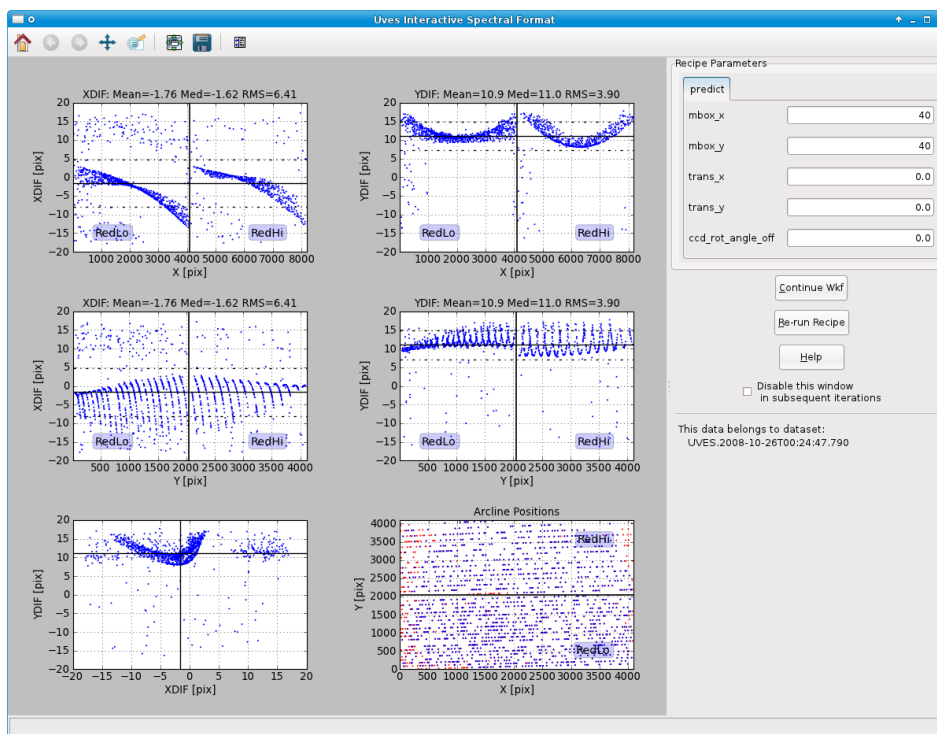

Figure 6.7: The interactive window for the Spectrum Locator actor for the first DataSet in the data supplied with Reflex 2.3..
5. **Spectrum Locator:** During the execution of the `Spectrum Locator` actor, an interactive window will appear as shown in Figure 6.7. The interactive window consists of six plots, five pipeline recipe parameters that may be changed, four buttons on the right, and a panel of buttons at the top-left. Help for each of these features may be accessed by leaving the mouse pointer for about one second over the plot/parameter/button for which information is required.